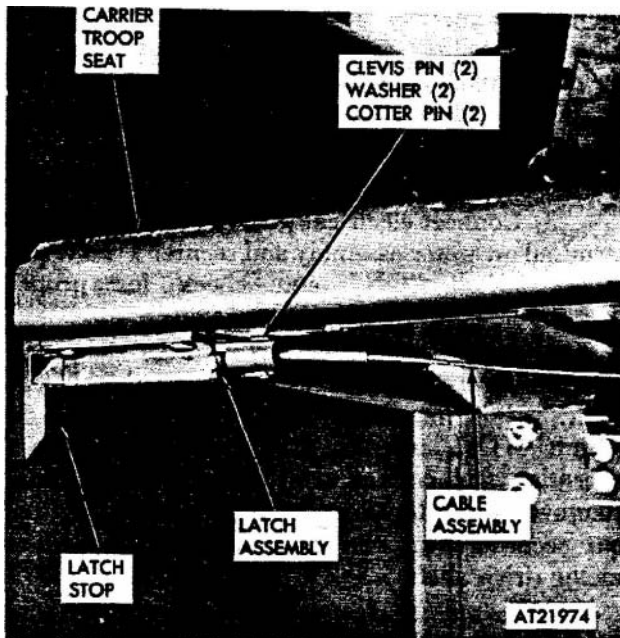

Figure 2-322. Carrier troop seat assembly, removal and installation.
(1) Raise seat to latch position and remove eight nuts and bolts from carrier and seat hinges. Pull latch release cable and remove seat (fig 2-322).
(2) Remove two cotter pins, clevis pins, and washers securing cable to latch. Remove cable.
(3) Remove four nuts, washers, and screws securing latch to seat. Remove latch.
(4) Remove nuts and screws securing latch stop to carrier. Remove latch stop.
(1) Align mounting holes of stop with holes in carrier structure. Install screws and nuts securing stop to carrier (fig 2-322).
(2) Align holes of latch assembly mounting flange with holes in seat. Install four screws, washers, and nuts securing latch to seat.
(3) Position cable assembly terminals on latch assemblies. Install two clevis pins, washers, and cotter pins securing cable.
(4) Position seat assembly to carrier and engage latch assemblies. Insert eight screws through seat mounting holes in carrier structure and seat hinges. Install nuts securing seat assembly to carrier.
(5) Apply a light coat of grease to stop. Pull latch release cable and oil hinges and latches. Engage and release latches several times and check seat installation.